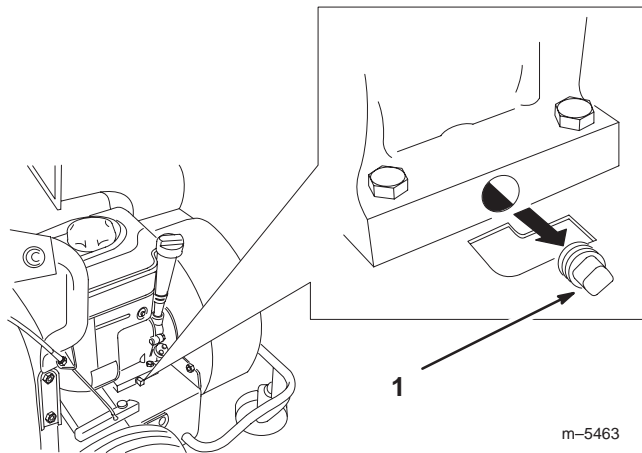

Figure 21
3. Clean the area around the drain plug (Fig. 21).